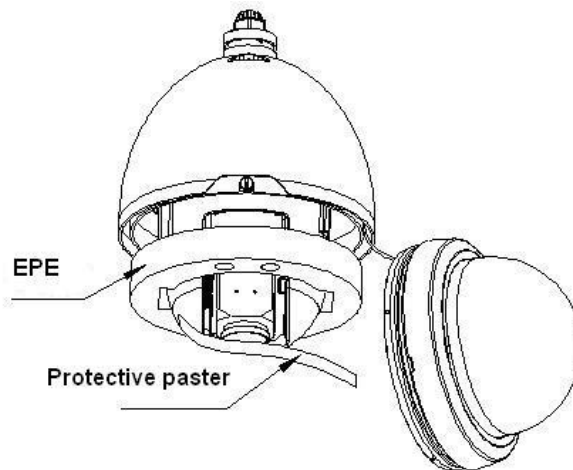

Figure 1-1
Step1: Open the transparent cover and take out the packing material EPE around the speed dome driver. Please remove the protective paster from the driver and take off the camera lens cap. See Figure 1-1.